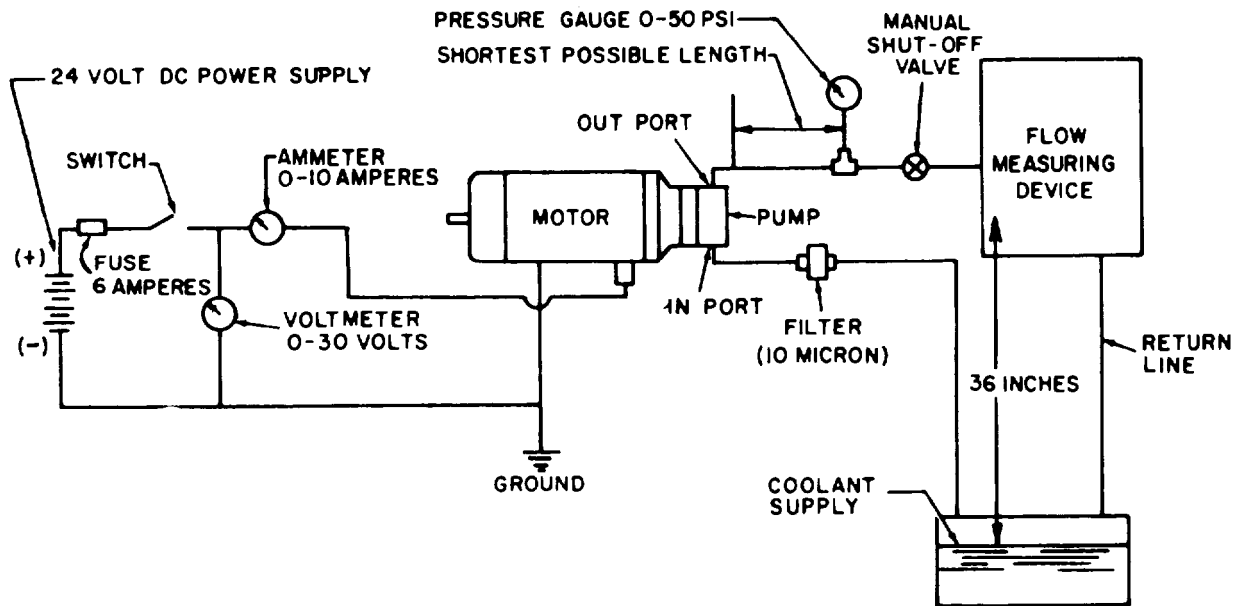

Figure 11-4. Coolant pump test set-up
1. Connect motor and pump assembly to equipment as shown in figure 11-4.